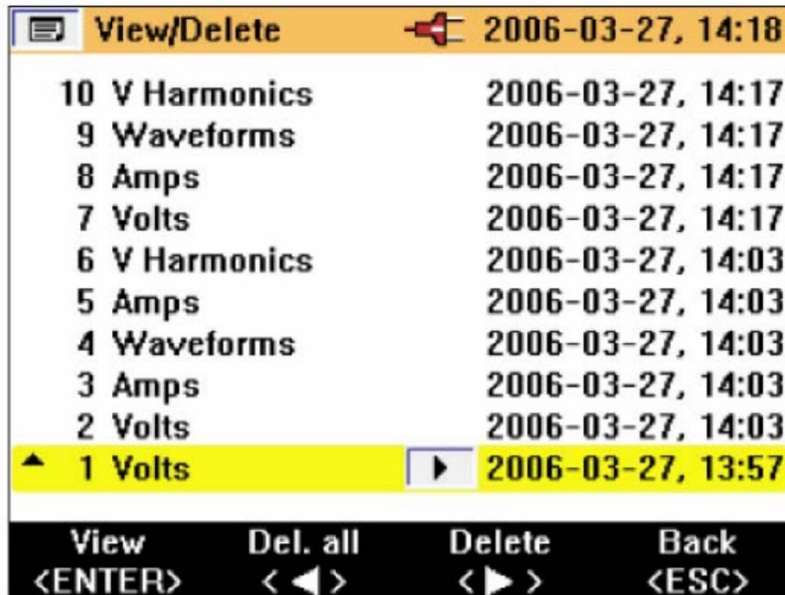

Figure A.2.8: Saved screenshots menu.
- The saved screens can be viewed by pressing the “MENU/ESC” button right next to the “ENTER/SAVE” button, then highlighting the “View/Delete Screens” option and pressing the “ENTER/SAVE” button again, which will take you to the “View/Delete” screen shown in figure A.2.8.